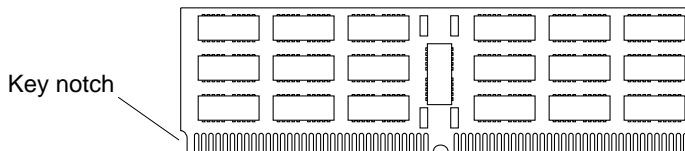

FIGURE 11-27 DSIMM, Back View
4. If installing a DSIMM, position the DSIMM with the key notch near the ejection lever (FIGURE 11-27).